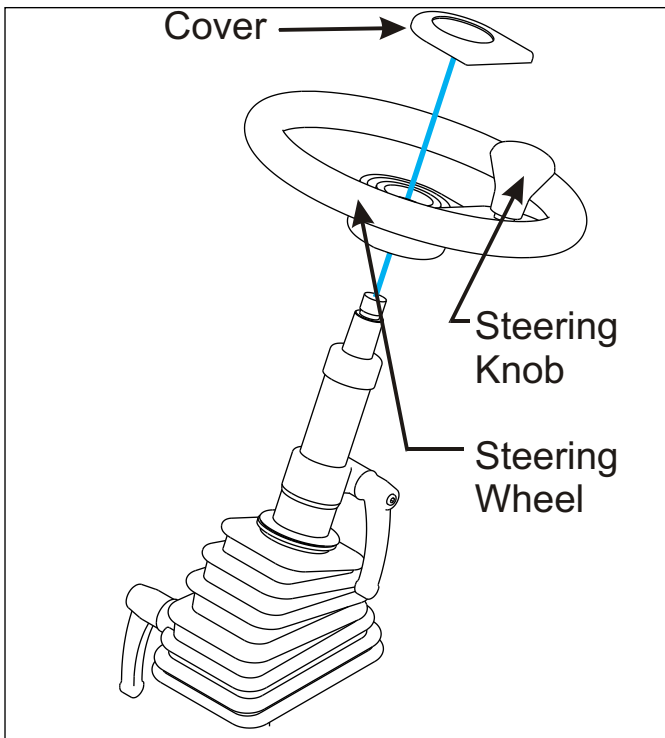

Figure 4-3 Steering Wheel and Knob
1. Pry the plastic cover from the steering wheel using your finger tips. See Figure 4-3. If you cannot grab the cover, you can start it by carefully using a medium sized flat blade screw driver and gently prying upwards. **DO NOT** force it or the cover may crack.